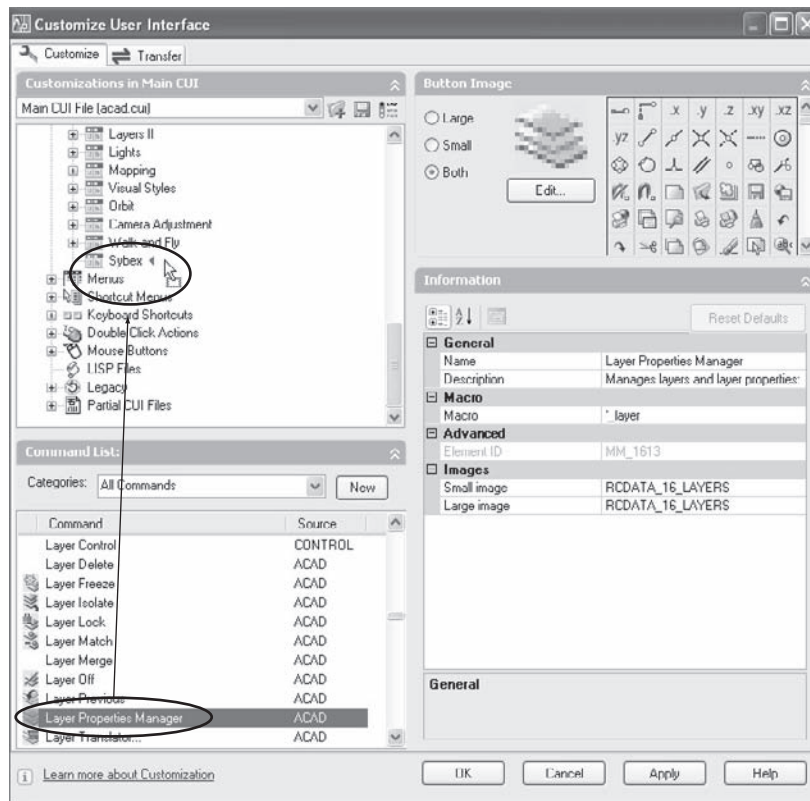

Figure 3.16
6. Drag any command from the list onto your toolbar. A toolbar button for that command is created. (See Figure 3.16.)